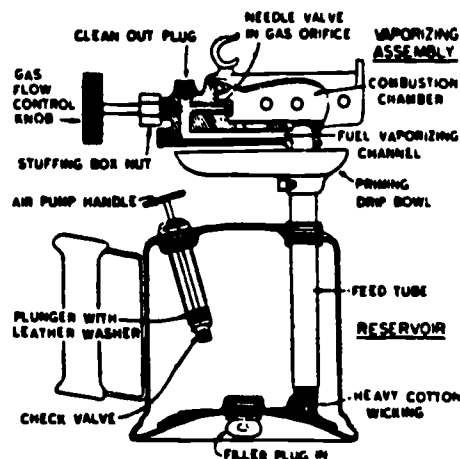

Fig 1-99. Blow torch.
- Acetylene torch:** The acetylene torch is one of the tools used to heat copper tubing and fittings for soldered joints. Figure 1-98 shows some of the torch controls you should become familiar with. The tank valve controls the flow of gas from the tank to the regulator. The pressure regulator is adjustable so you can control the pressure at the stem tip. The torch is lighted by turning on the tank valve and the handle control valve until gas escapes from the stem tip. You can use the spark lighter (fig 1-99) or a match to ignite the gas. You adjust the regulator to get the flame desired (pale blue with a bright inner cone). A pilot flame can be produced by opening the small valve in the center of the handle control valve. When you shut off the handle valve, the small pilot flame will stay lit. This automatically puts a soldering flame on when you turn the handle control valve on again.
- Blow torch (fig 1-99):** The blow torch uses gasoline as fuel. Pressure is obtained by pumping air into the tank body with the small thumb-operated pump on the side of the blow torch. When the control valve is turned on, gas jets are forced out of the tank. The blow torch is then ignited using a flame. The torch must be warmed up before it has the proper flame for soldering. This means that after you initially light the blow torch, it takes a few minutes for the generator to heat up enough to emit a clean-burning blue flame.